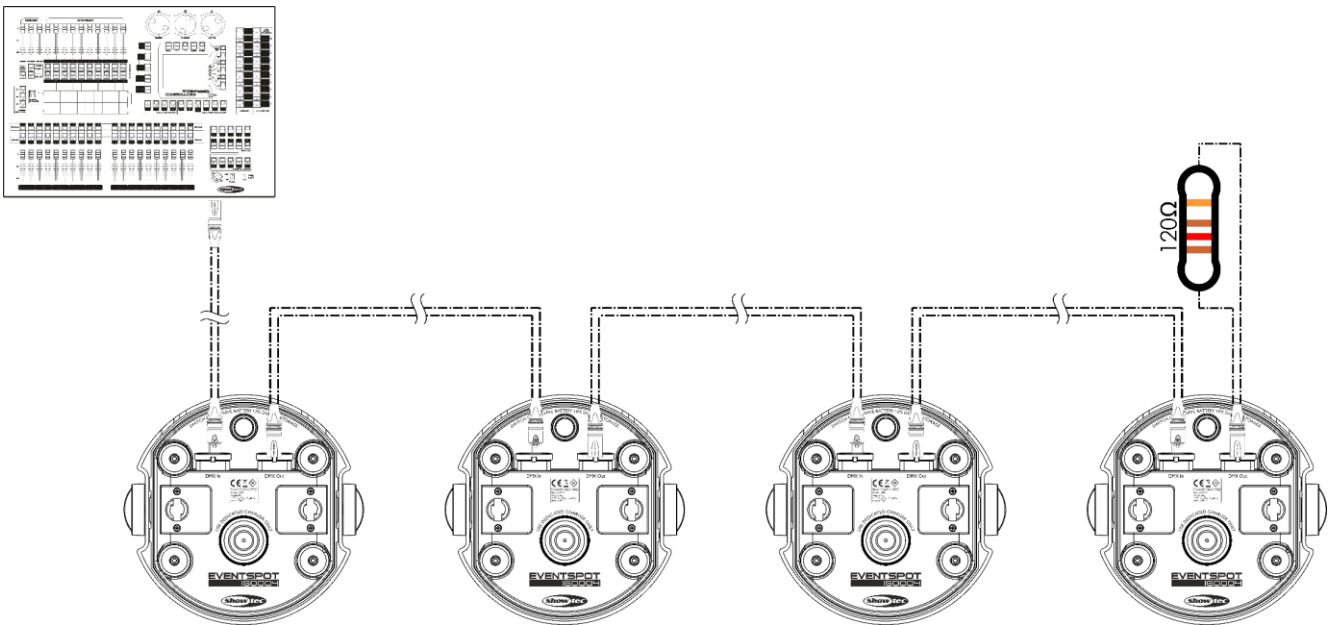

Fig. 06
- 03) Link the units as shown in (figure 06), connect a DMX signal cable from the first unit's DMX "out" socket to the second unit's "in" socket. Repeat this process to link the second, third and fourth units.